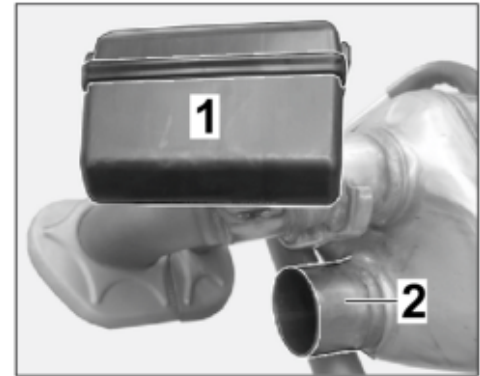

Figure 4
- 2.4.2 Remove transport protection shell on the new muffler in the exhaust flap connector area ($\Rightarrow$ Figure 4).